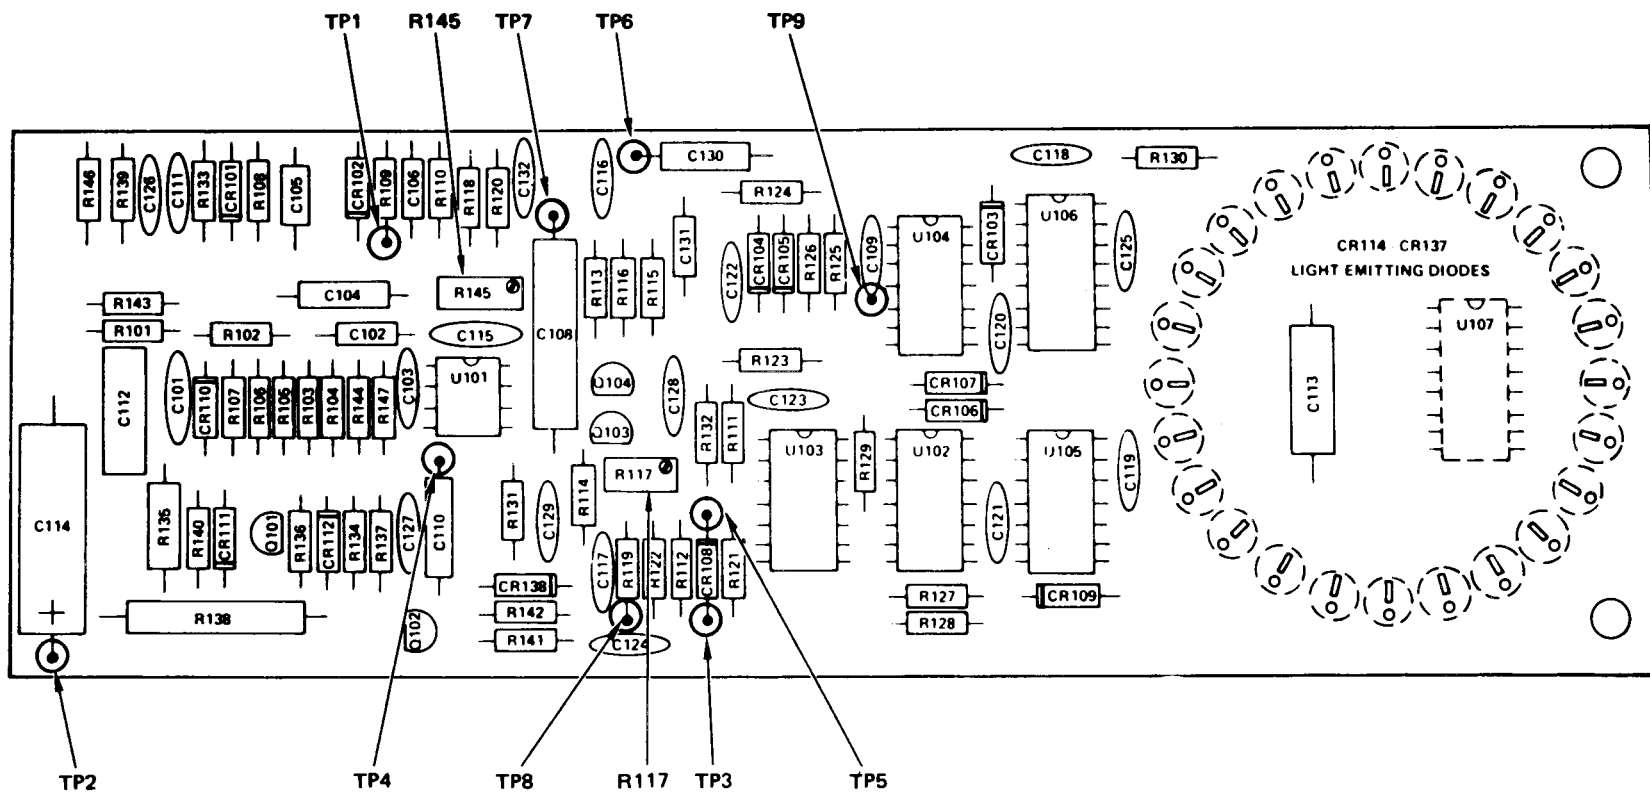
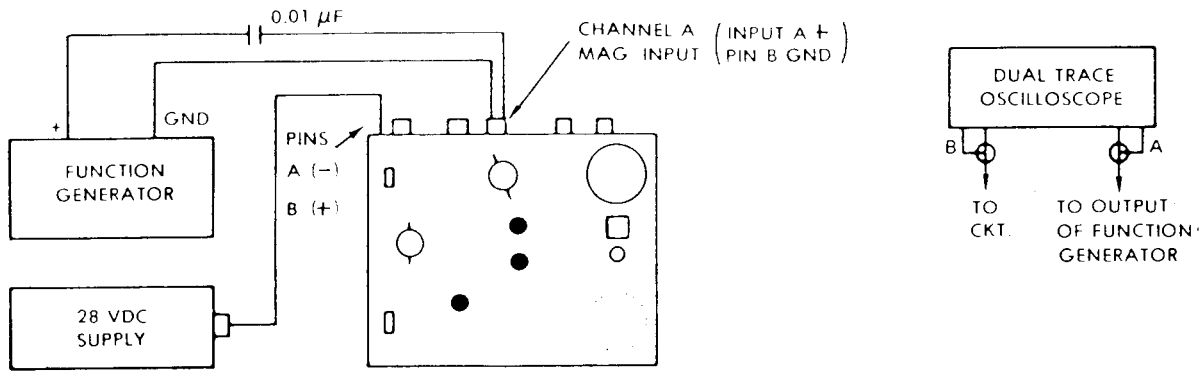

Figure 4-7. Phazor Test Points and Adjustments
Figure 4-8. Phase - Lock Loop Test Setup
*a. Perform Phazor resistance checks as applicable with Table 4-4. Figure 4-7 shows the location of Phazor test points.*
(1) Connect +28 vdc power supply only to Balancer as shown in Figure 4-8.
(2) Use VOM to measure voltages at test points in Table 4-5.
(1) Connect Balancer and test equipment as shown in Figure 4-8.
(2) Set FUNCTION switch A, R.P.M. RANGE switch to X10, and INTERRUPTER LOGIC switch to SINGLE.
(3) Connect oscilloscope to function generator output and set up function generator for a square wave output of 600 m. peak-to-peak at 41.7 Hz ± 1 Hz.
(4) Disconnect oscilloscope from function generator and connect to TP3 (Figure 4-7). Verify that oscilloscope indication is a + 5 volt spike at 41.7 Hz. (TEST switch depressed).
(2) Set FUNCTION switch to A, R.P.M. RANGE switch to X10, and INTERRUPTER LOGIC switch to SINGLE.
(3) Connect signal input A of function generator. Trigger oscilloscope from function generator.
(4) Set up function generator for a square wave output of 600 mV peak-to-peak at 41.7 Hz.
(5) Connect oscilloscope input B to TP4 (Fig. 4-7). Verify the oscilloscope indication is +10 volts, +1.0 vdc with a negative going pulse coincident with the square wave input rising edge.
(6) Connect oscilloscope input B to TP5 (Fig. 4-7). Verify that oscilloscope indication is similar to TP4.
(7) Set INTERRUPTER LOGIC switch to DOUBLE. Verify that pulses at TP5 disappear. Rest INTERRUPTER LOGIC switch to SINGLE.
(8) Connect oscilloscope input B to TP6. Verify that oscilloscope indication is 24 sawtooth ramp signals for each input square wave and that bottom of ramp is approximately +1.5 volts and peak is approximately +5 volts. The amplitude of the cycle prior to the positive-going edge of the square wave should be approximately 75% of the amplitude of the rest of the cycles.
(9) Connect oscilloscope input B to TP7 (Fig 4-7). Verify that oscilloscope indication is  $+8 \pm 1$  vdc with a 30 mV peak-to-peak triangle waveshape riding on it. The triangle wave and the input square wave are phased as follows: negative ramp of triangle simultaneous with negative half of input square wave.
(10) Set frequency of function generator to 150 Hz. Verify that delevel at TP7 changes to  $+4 \pm 1$  vdc.
(11) Connect oscilloscope input B of TP8 (Fig. 4-7). Set frequency of function generator to 16 Hz. Verify that 5-volt square wave at TP8 is in phase with input square wave.
(12) Set frequency of function generator to 166 Hz. Verify that square wave at TP8 changes to 166 Hz and is in phase with input square wave in approximately 5 seconds.
(13) Connect oscilloscope input B to TP9 (Fig. 4-7).
(14) Set frequency of function generator to 55.5 Hz. Verify that wave from at TP9 is a 4-volt square wave at twice input frequency. Square wave is 0 volts for 3 ms and 4 volts for 6 ms. This two-to-one ratio exists for all frequencies from 16 to 166 Hz.